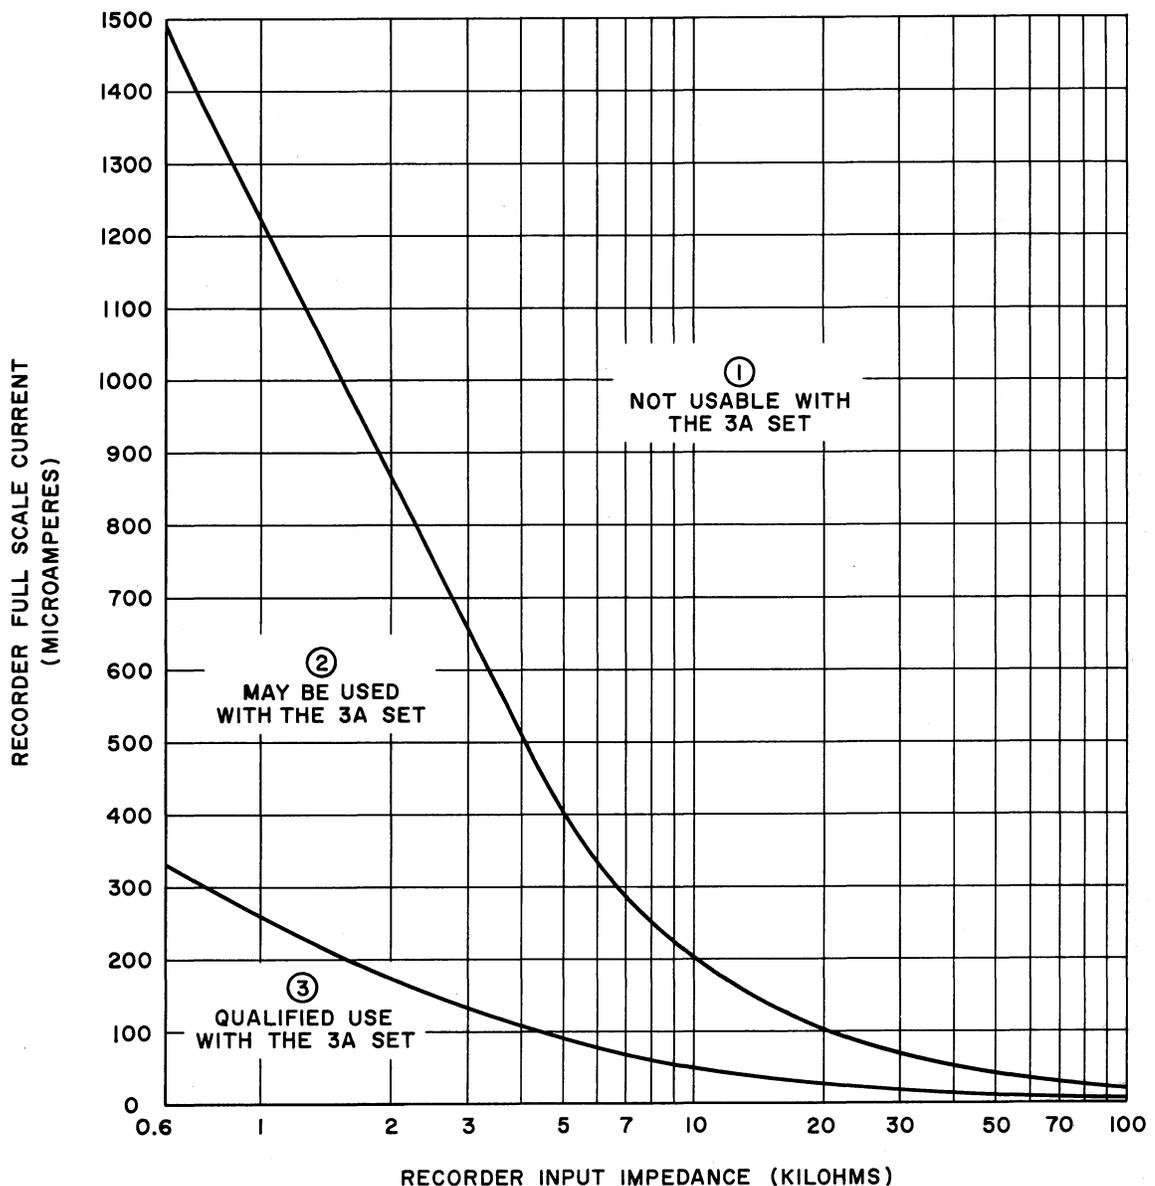
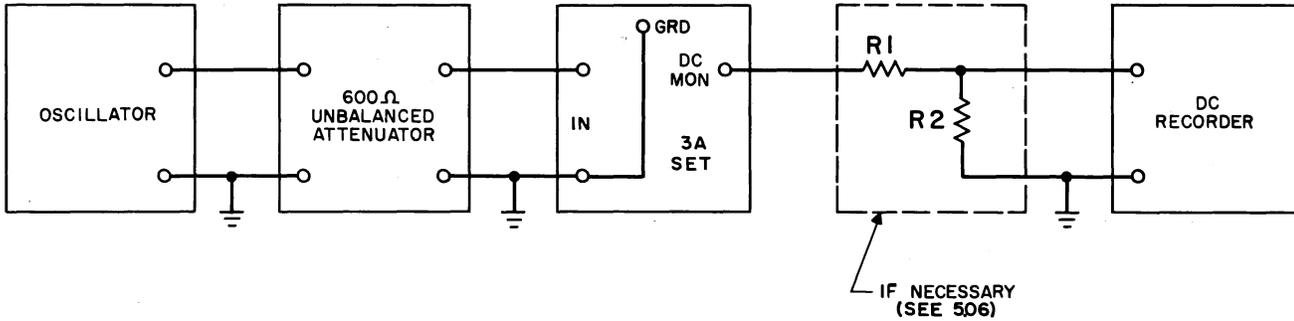

Fig. 8 - Use of DC Recorder with 3A Set
Fig. 9 – Calibration of DC Recorder
5.04 Fig. 8 is divided into three areas. For any given recorder, a point may be determined on Fig. 8 which will fall within one of the areas. For instance, suppose the recorder that is available has an input impedance of 3,000 ohms and a full-scale current of 500 microamperes. The point determined by these two numbers falls in region 2. This recorder may be used with the 3A set
(as Fig. 8 indicates). If the point had fallen in region 1, the set would not be able to drive that recorder to full scale, and erroneous results may be recorded. If the point had fallen in region 3, the set may be used to drive the recorder as discussed in 5.06.
5.06 If the coordinates of a particular recorder fall within region 3, the recorder may be used as shown in Fig. 9. As an example, suppose the recorder has an input impedance of 10,000 ohms and a full-scale sensitivity of 20 microamperes. R_2 may be chosen to be 500 ohms. This makes the apparent input impedance essentially 500 ohms and the full-scale sensitivity to be $10,000/500 = 20$ times as large or 400 microamperes. Then choose R_1 to be, say, 3,500 ohms; this makes the combination look like a recorder with 4,000-ohm input impedance and 400-microampere sensitivity. This now falls in region 2 of Fig. 8.
5.07 Without disturbing any resistor arrangement which may have been necessary (as in 5.06), set up the equipment shown in Fig. 9, but do **not** connect the recorder.
- (1) Select an oscillator that will reliably supply about 1 volt into 600 ohms over a frequency range of 30 to 1,000 cps.
- (2) Set up the testing arrangement shown in Fig. 9 (without the recorder). Set the FUNCTION switch to BRDG, the DBRN switch to 80, and use either the 3- or 15-kc flat network. Connect a 600-ohm resistor across the IN terminals of the 3A set.
- (3) Adjust the oscillator output so that the 3A set reads 90 dbrn (80 on DBRN switch and +10 on meter) at 1,000 cps.
- (4) Adjust the frequency of the oscillator to the values in Table D. If the 3A set does not deviate more than the listed tolerances, it should perform satisfactorily.